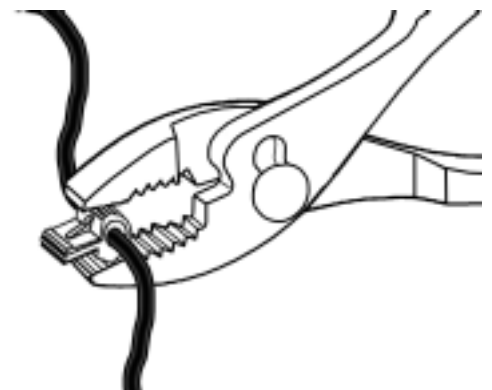

FIGURE 39
1. USING PLIERS, ATTACH ONE SUPPLIED 3M CRIMP LOCK TO THE 12 Vdc POWER SOURCE BLUE WIRE AND ANOTHER ONE TO THE BLACK WIRE 2" FROM THE END OF THE CIGARETTE LIGHTER CONNECTOR. (SEE FIGURES 39 AND 40)